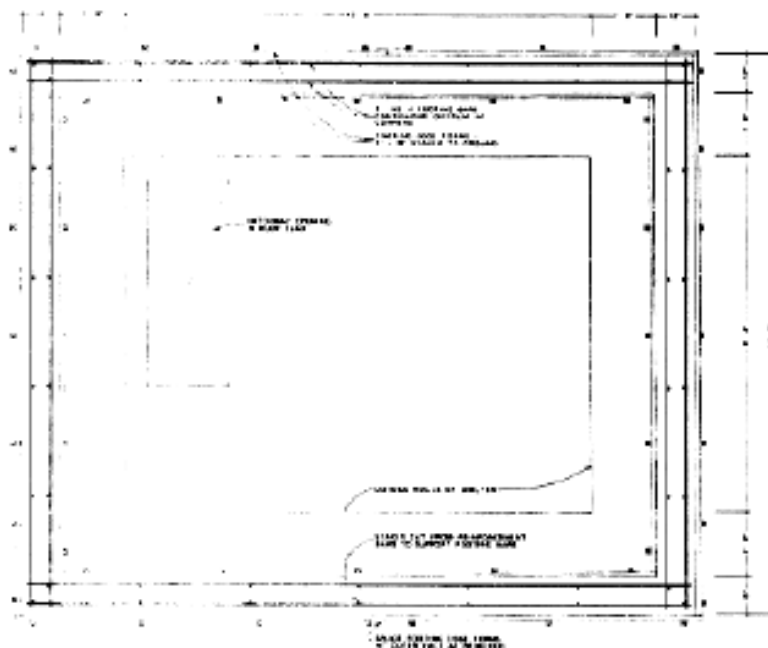
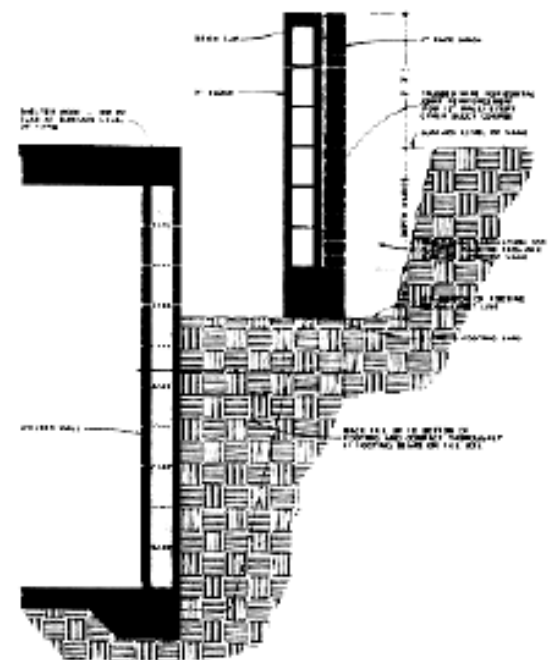

Figure 61. Plan of footing reinforcement steel for planter walls
Figure 62. Planter walls location relative to the shelter wall
The amount of soil, if any, to be excavated for the planter wall footings will depend upon the slopes of the side walls of the original excavation is indicated in Figure 62, it is possible that the footings will need to be placed upon fill soil. In such a case, backfill soil can be placed up to the level of the bottoms of the planter wall footings.
Footings for the planter walls should be placed upon firm soil either undisturbed soil at the bottom of the excavation or thoroughly compacted fill material. Figure 62 indicates one type of condition for which compacted fill may be necessary. Corners for the planter wall footings may be located in the same manner as described in Section 3 for the floor slab of the shelter. Elevations of the tops of the footings should be established using a transit level or water filled hose as is described on pages 15 and 16. Footings for the planter walls should be side formed (both sides) using 2" X 10" s held in place by stakes nailed to the sides, as shown in Figure 61. Corners should be set with identical elevations to the tops of the footings and verified for accuracy relative to the original point of vertical reference. Batter boards may be the most convenient way to accurately set the corners of the footing forms. Note for the example shelter that the elevation of the tops of the planter wall footings has been established after first establishing the elevation of the tops of the planter walls relative to the surrounding yard and working backward to the top of the footings, using the coursing height of the brick and block to set the elevation belowground. Use has been made of the fact that in general one block course equals three bricks course. Keeping with this relationship, the heights of the planter walls has been coordinate with the elevations of the block walls of the main structure and the raised hatchway. The depth of the planter wall footing below the surface of the ground should be based upon the maximum expected depth of the frost level in the region in which the facility is constructed. The bottoms of the footings should be set at or below the maximum frost level. This is because freezing action of moisture in the soil possibly could heave the planter wall upward if this precaution is not taken. Each owner / builder will need to determine the depth of the footings for his shelter location by consulting with local builders or the local building department.
Horizontal reinforcement is used in the brick and block wall to hold the masonry wythes (the separate planes of masonry that make up the entire wall thickness) together. Trussed joint reinforcement for a 12" wall of two wythes (three wires running horizontally in the reinforcement) is used in the example. The joint reinforcement is placed in every second block bed course as is indicated in Figure 62.
Step 4. To set side forms for footings, nail stakes on about 4 ft. centers on length of 2" X 10" lumber which will be used for the forms. Abutting ends of lumber should be spliced as indicated in Figure 61 when available lumber length are shorter than the side walls to be formed. Footings for the return walls at the steps will be located and formed later in the construction work.
Step 7. Cut lengths of No. 4 reinforcement bars and place two bars in each footing, as indicated in Figures 61 and 62. Overlap bars at corners. If more than one bar is used for any single length of reinforcement, overlap the bars 24" and wire them together. Bars should be supported along their lengths about 3" above the surface of the soil using short lengths of bars driven into the soil. Dowels in the planter wall footings are not needed for the design shown which does not require vertical reinforcement, but dowels and vertical reinforcement may be necessary if the planter walls project higher above the level of the yard than is indicated in the design that is illustrated.
A brick cap is provided for the planter walls in the example. The bricks are placed flat, as indicated in Figure 62. Note: Some bricks are manufactured with holes throughout the least thickness. When these bricks are laid flat, the exposed holes are aesthetically unsightly. Therefore, it is desirable to select bricks of the cap that do not have holes.